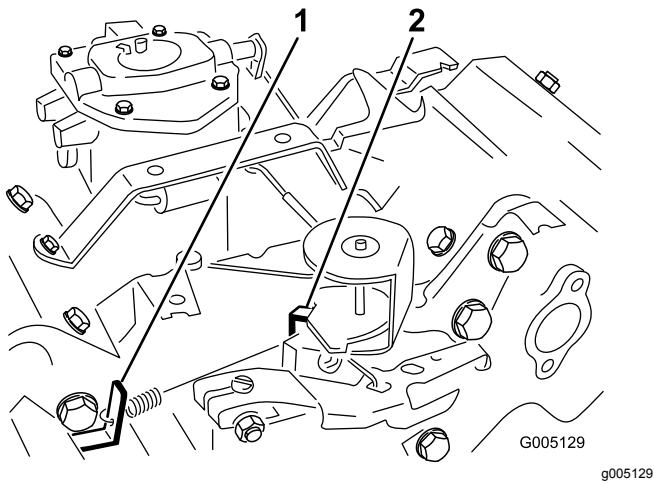

Figure 49
3. Bend the governed idle spring anchor tang (Figure 49) to attain an idle speed of 1650 ± 100 rpm. Check the speed with a tachometer.
5. Move the throttle control to the Fast position. Bend the high speed spring anchor tang (Figure 49) to attain a high speed of 2850 ± 50 rpm.